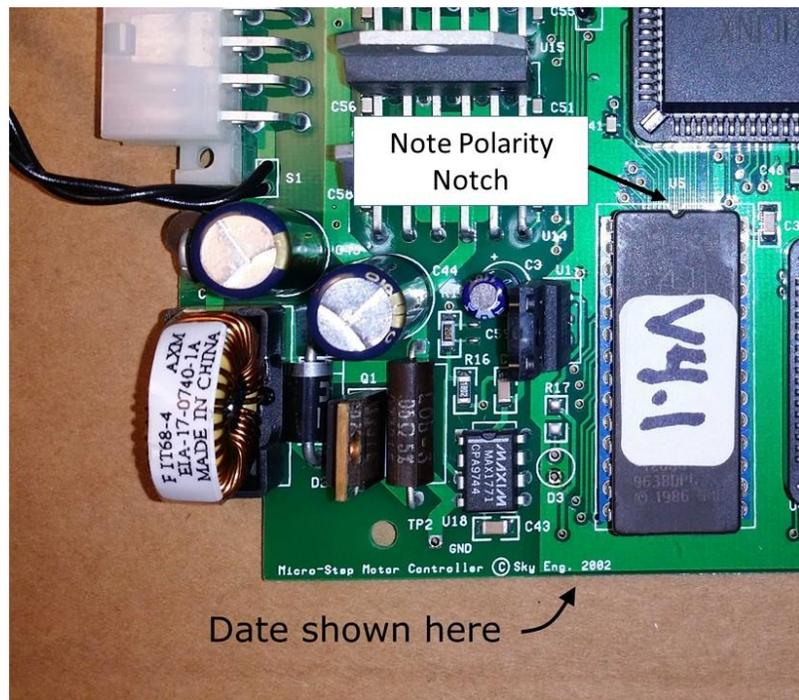

Figure 1
- 1) EPROM version 4.1 may be used with SkyTracker motor drives having PC boards identified as '2002' (see figure 1). Alternately, if the board version is '1998' and it has been hardware upgraded, then EPROM version 4.1 may be used, otherwise it should not be used. See page 2 to determine if the board has been upgraded.